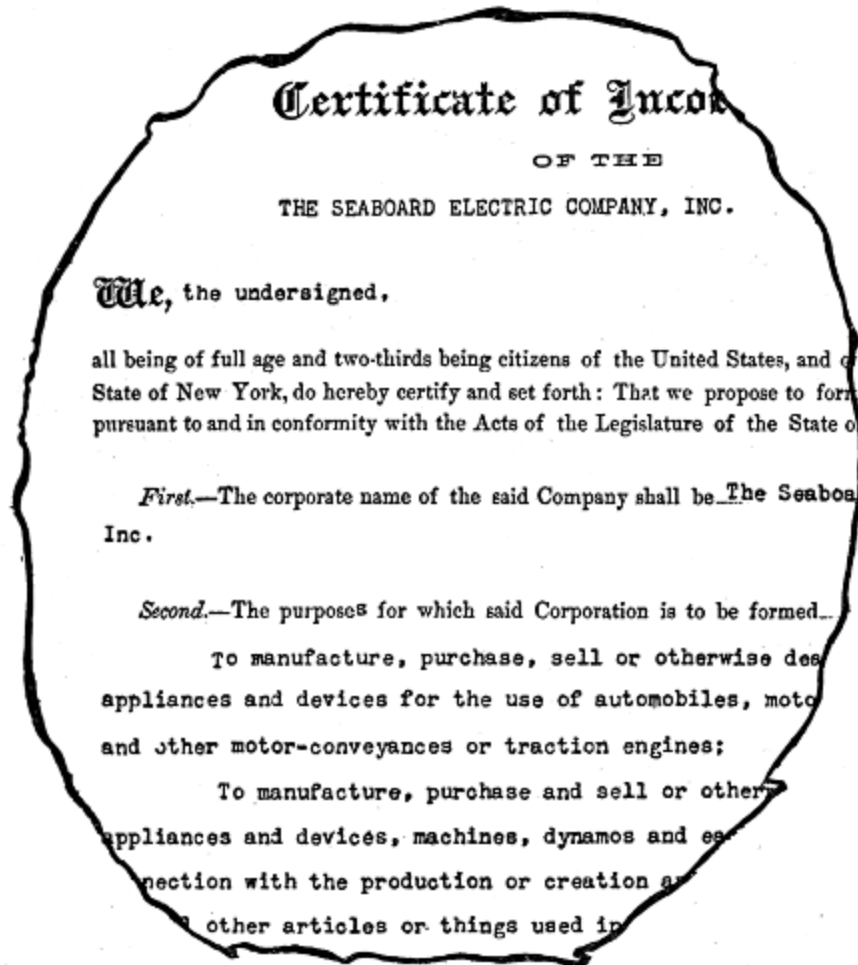

FIG. 83. CERTIFICATE OF INCORPORATION
Then you and the others make, sign, acknowledge and file a *certificate of incorporation*, a reproduction of which is shown in Fig. 83 (see outfit necessary for a Corporation), and this must contain: (1) the name of the proposed company; (2) the purpose for which it is formed; (3) the amount of the *Capital stock* (which means the entire amount of the stock, for which the company is capitalized and which, let's say, is \$10,000); (4) the number of *shares* of which the capital stock is to consist (each share of which must